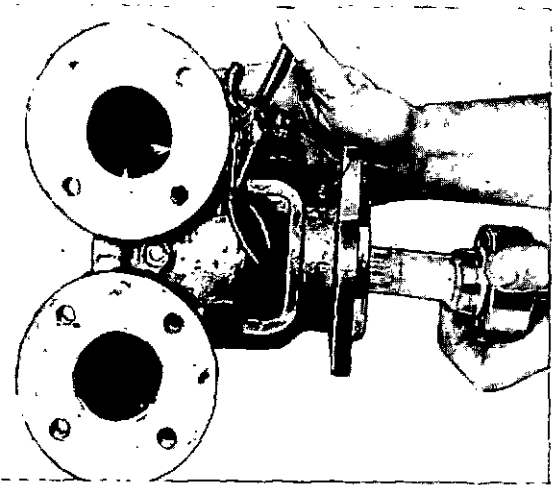

Fig. 8-58 (N20806). Install The Shaft Into The Housing.
4. Hold the rubber slinger (8) in the correct position in the housing. Install the shaft into the housing and through the slinger as shown in Fig. 8-58.